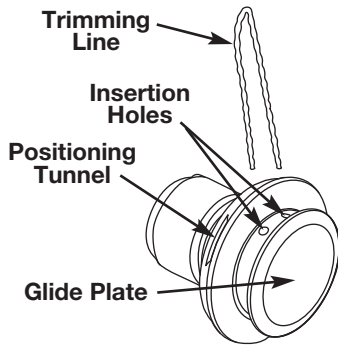

Fig. 11
3. Reinstall line glide plate (Fig. 11). The glide plate is a keyed item and will only fit one way. If it does not go into the cutting head smoothly, DO NOT force it. Rotate the glide plate until it slides into the cutting head easily.
4. Insert both ends of your line through the insertion holes in the side of the cutting head (Fig. 11).